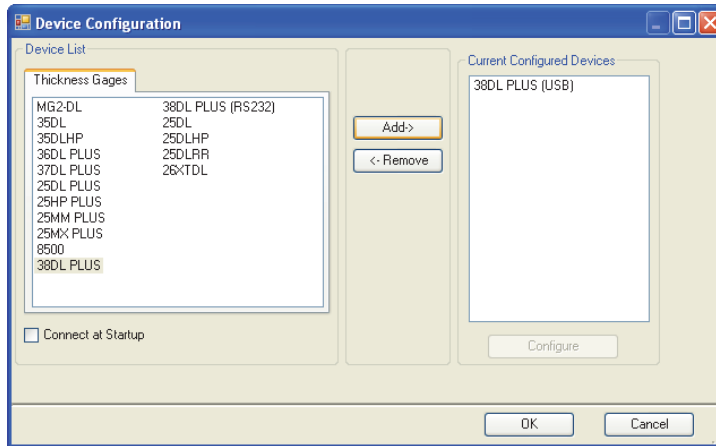

Figure 14-10 The Device Configuration dialog box
- b) In the **Device Configuration** dialog box (see Figure 14-10 on page 279):
- (1) In the **Device List**, select 39DL PLUS, and then click **Add**. 39DL PLUS (USB) appears in the **Current Configured Devices** list.
- (2) Select the **Connect at Startup** check box so that GageView automatically attempts to connect to the 39DL PLUS when it starts.
- (3) Click **OK**.